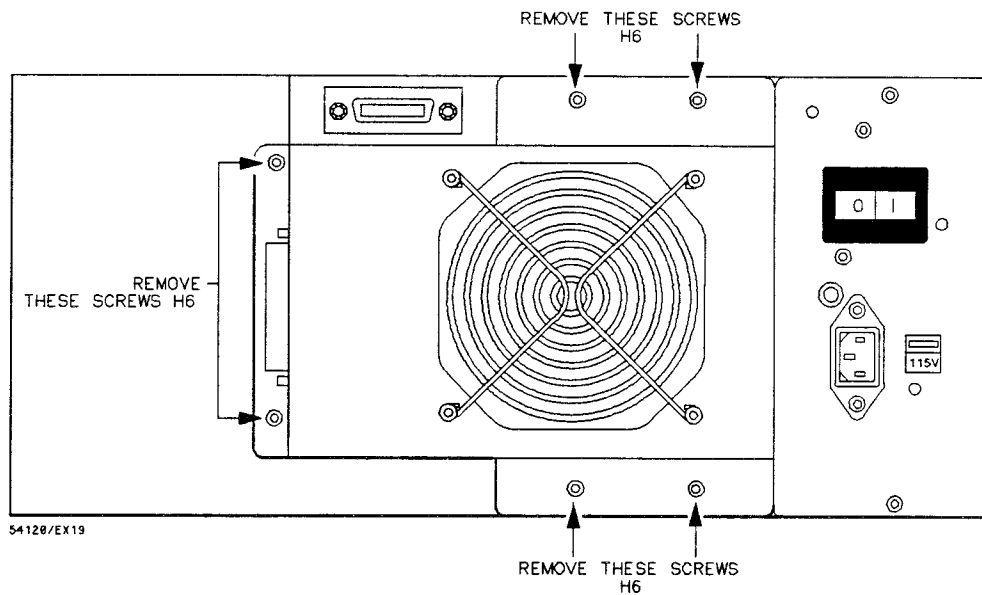

Figure 6A-6. Fan Housing Mounting Screws
4. Remove fan housing mounting screws as shown in in the figure 6A-6.